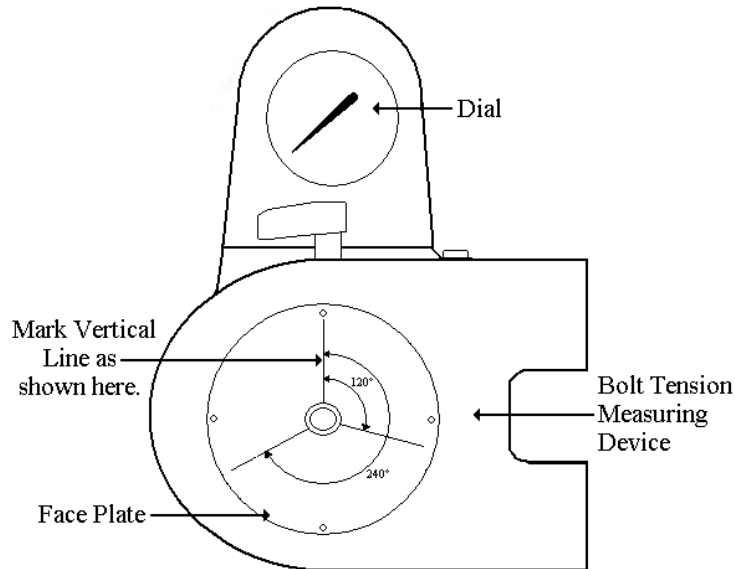

Figure 1
- A. Mark off a vertical line on the face plate of the calibrated bolt tension measuring device. Using a protractor, mark off additional lines at 120 degrees, and 240 degrees as shown in figure 1.